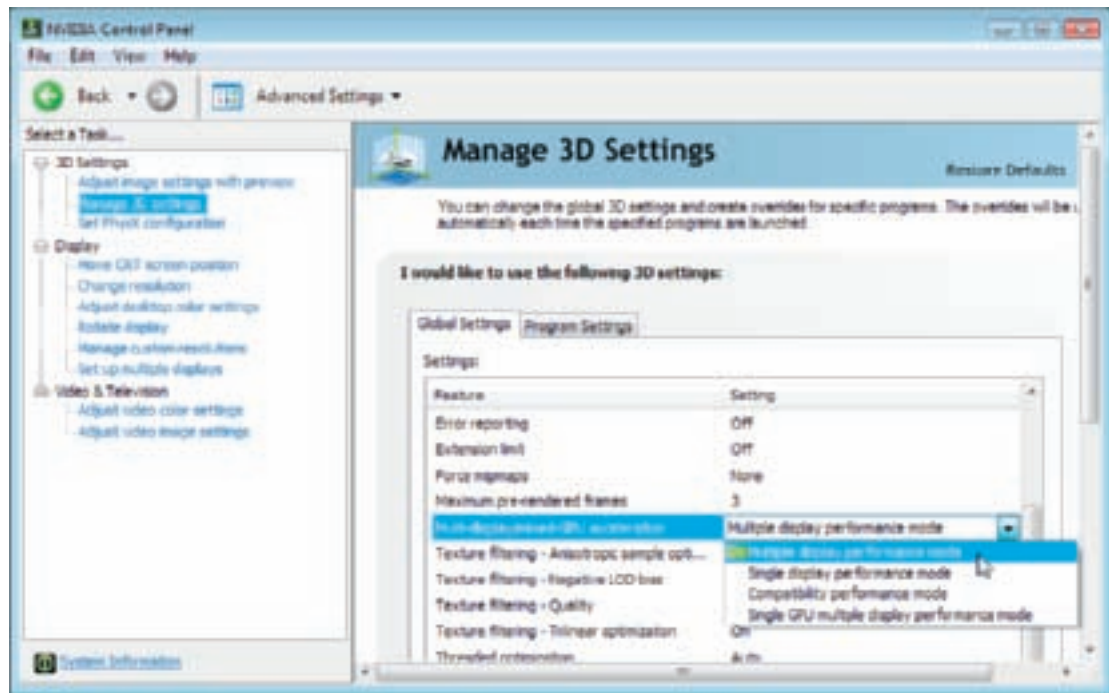

Figure 9-79 Configure the two video cards to work in tandem
4. To configure the video cards to work in tandem, open the video adapter utility. The easiest way to open the utility is to right-click the desktop and select **NVIDIA Control Panel** from the shortcut menu (refer back to Figure 9-21). For this particular utility, select **Manage 3D settings** in the left pane and select **Multiple display performance mode** in the right pane, as shown in Figure 9-79.